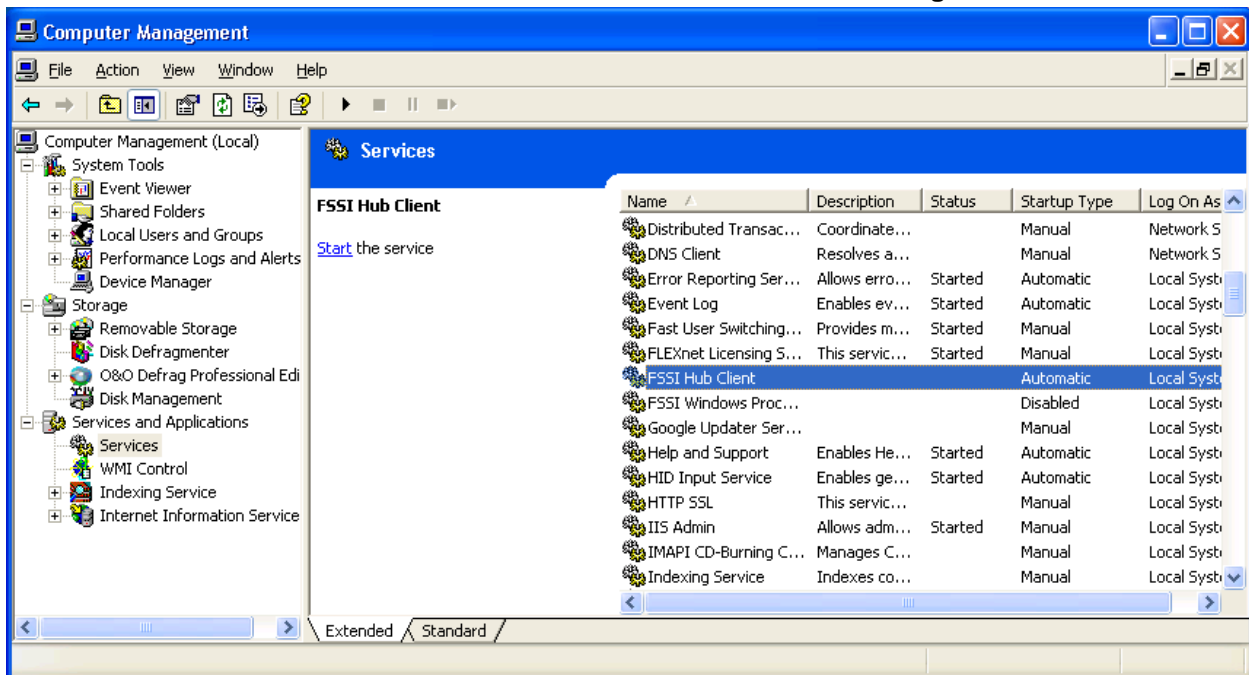

Figure 2
3. Expand the Services and Applications Item (click the +) Figure 2.